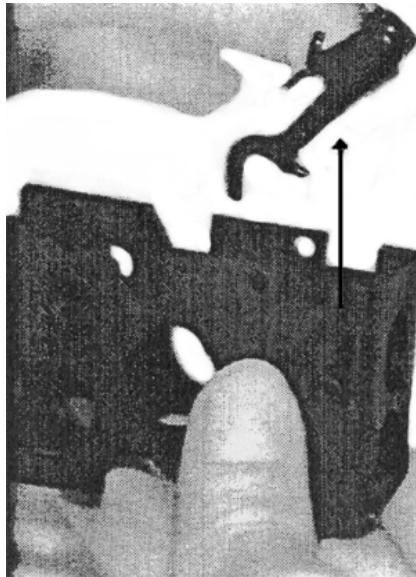

Figure 29
- Remove *spring* and *stop latch* (Fig. 29)